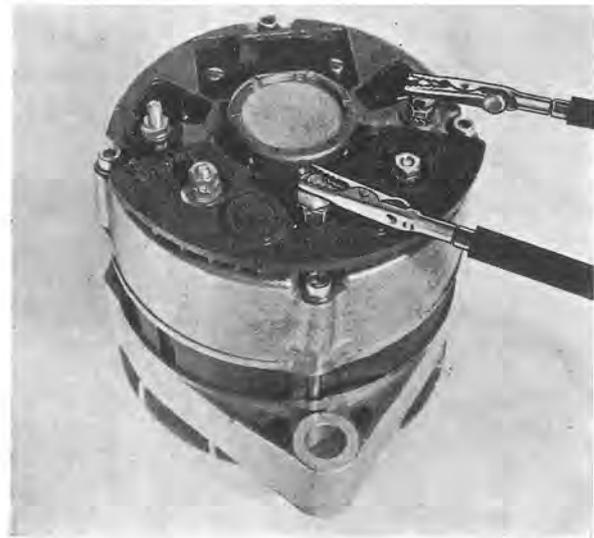

Fig. 3-19. Checking the alternator
7. Connect a test lamp between B+ and the alternator frame. Switch the terminals. The lamp should light only in one direction, see Fig. 3-19. After any repairs, the alternator should be test-run in a test bench.